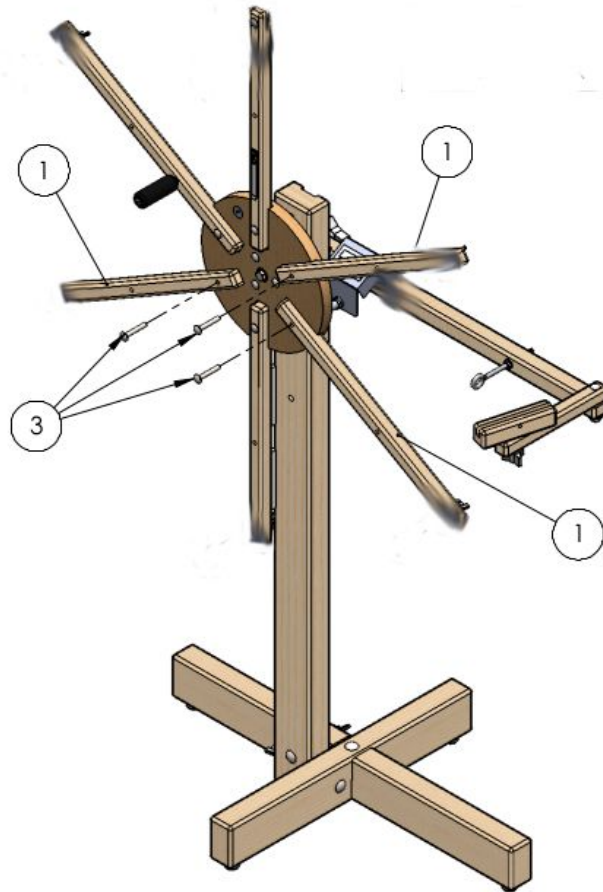

Figure 10 – Warping Wheel with Spokes
5) Mount the remaining 3 spokes on the drum assembly. (Figure 10)